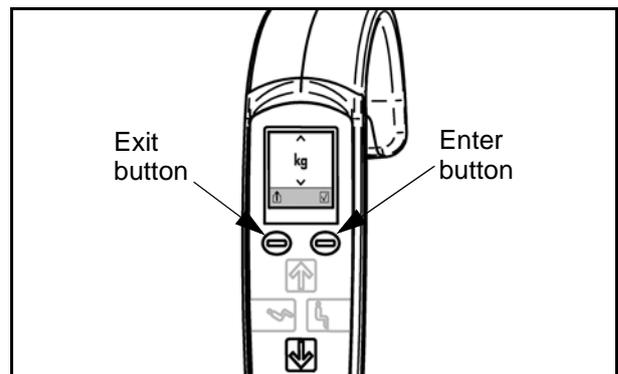

Fig. 70
- Press the Enter button to access the units of measurement option. The units of measurement "kg" or "lb" will replace the scale icon in the middle of the screen (see Fig. 70).